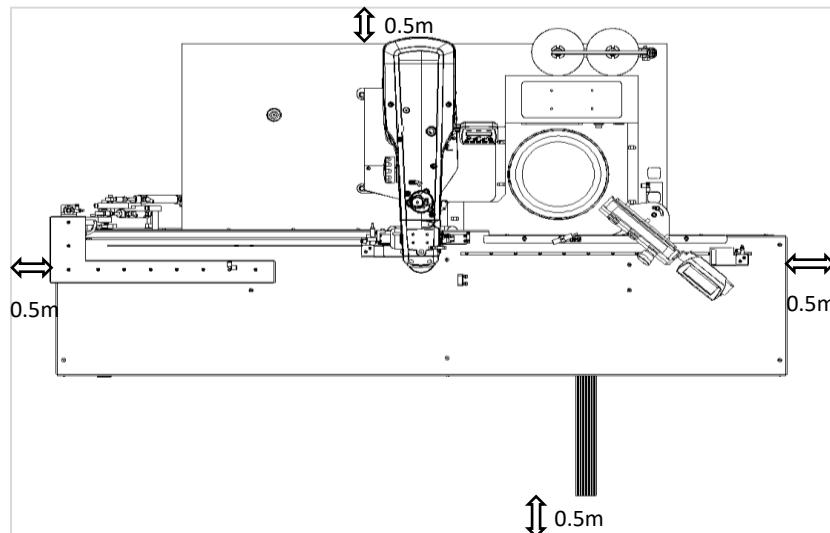

图 4.1 摆放设备周围空间要求 Figure 4.1 Space required around machine
- 必须在机器四周强制性留出如图 4.1 所示的空间，来操作和维护机器。
Required space as Figure 4.1 shows must be set aside around the machine to operate and maintain the machine.